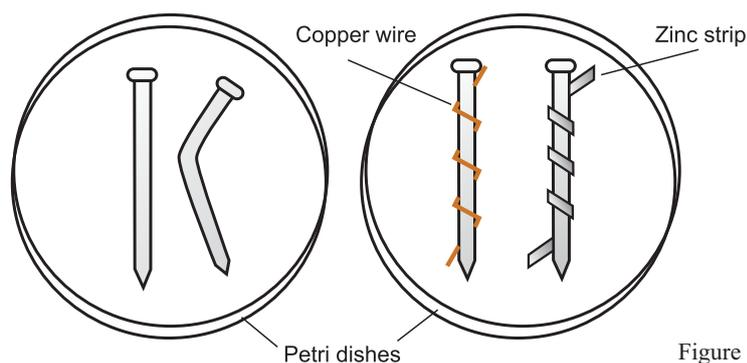

Figure 24.1
1. Collect two clean, non-painted, non-galvanised iron nails. Place a clean nail to one side of a petri dish and another, which has been sharply bent, to the other side of the petri dish as shown in Figure 24.1.
Place the two nails in a petri dish as shown in Figure 24.1. Ensure that the nails do not touch each other.
6. Set the dishes aside in a suitable location in the laboratory. Examine them at the end of the laboratory period and again after they have stood for 24 hours. Colour and sketch changes that appear on Figure 24.1 below.